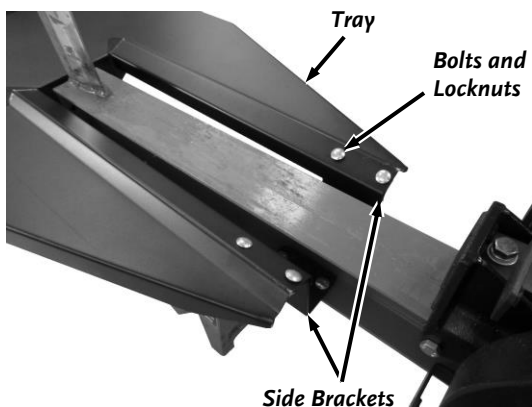

Figure 6
4. For easier alignment in the following step, slightly loosen the Side Bracket Hardware using a 9/16" Wrench (**Figure 6**).